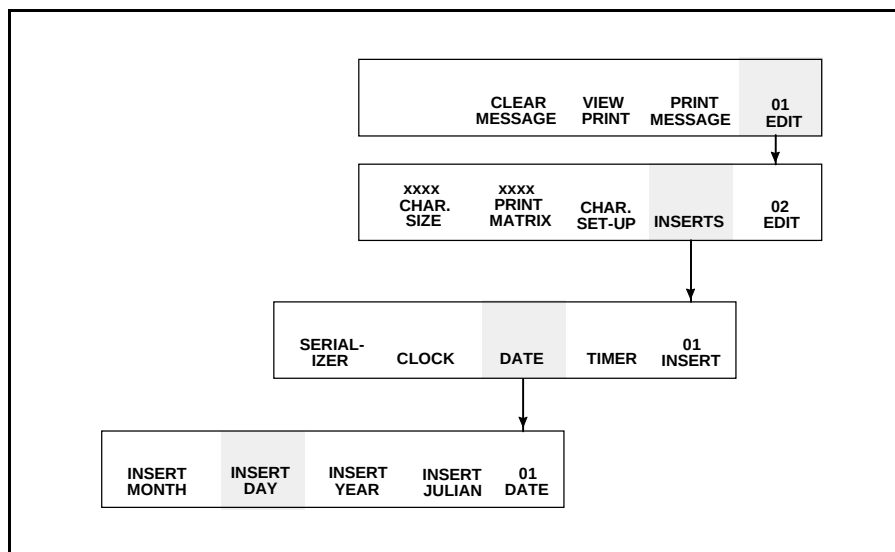

Figure 6-26. Accessing Frame <01 DATE>
1. Begin in Frame <01 DATE>. Refer to Figure 6-26.